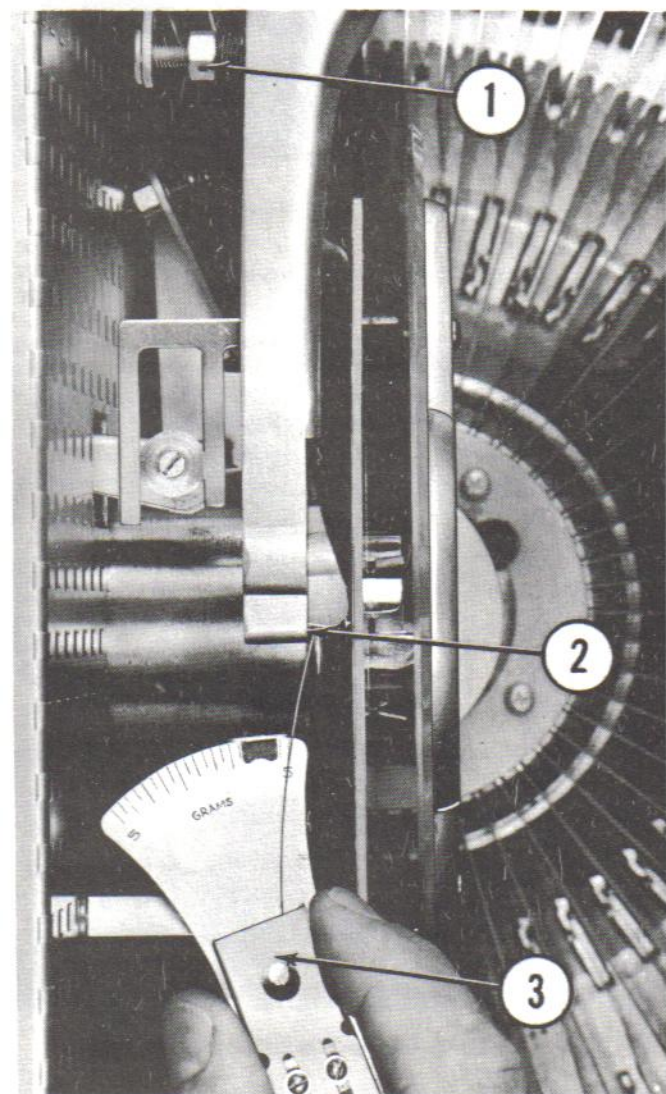

Fig. 69. NEEDLE PRESSURE ADJUSTMENT
(3) The needle pressure adjustment may be accomplished by turning the Nylock stop nut (Fig. 69, Item 1) to vary the spring tension on the tone arm. With a record in play position and the power "off," use a gram scale, such as Graybar 70-D (Item 3), measuring at the end of the tone arm (Item 2) the pressure needed to just pull the needle off the record.